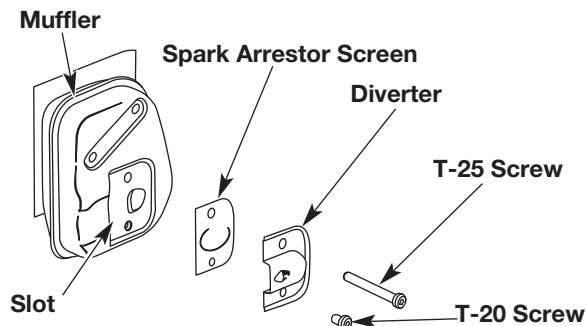

Fig. 36
2. With a flat blade screwdriver or Torx T-20 bit and a T-25 bit, remove the screws attaching the spark arrestor diverter to the muffler (Fig. 36).